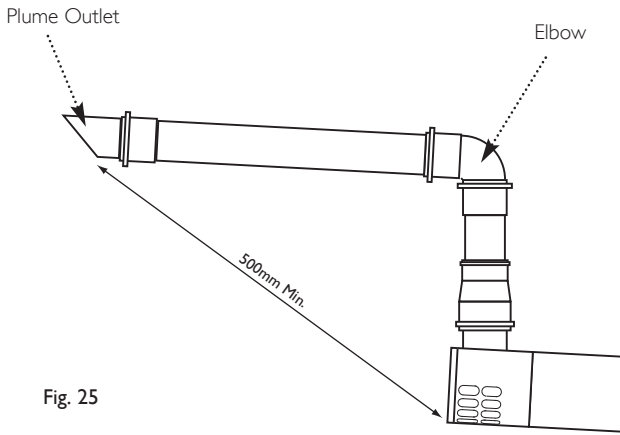

Fig. 25
16. It is also possible to separate the plume outlet from the 93° elbow to allow the flue to be installed as shown in Fig. 25.
17. To do this, first slacken the two screws retaining the plume outlet to the elbow, and remove the outlet (Fig. 26). The elbow can now be used to connect the vertical to horizontal 60Ø exhaust (Fig. 25). Retighten the screws in the elbow.